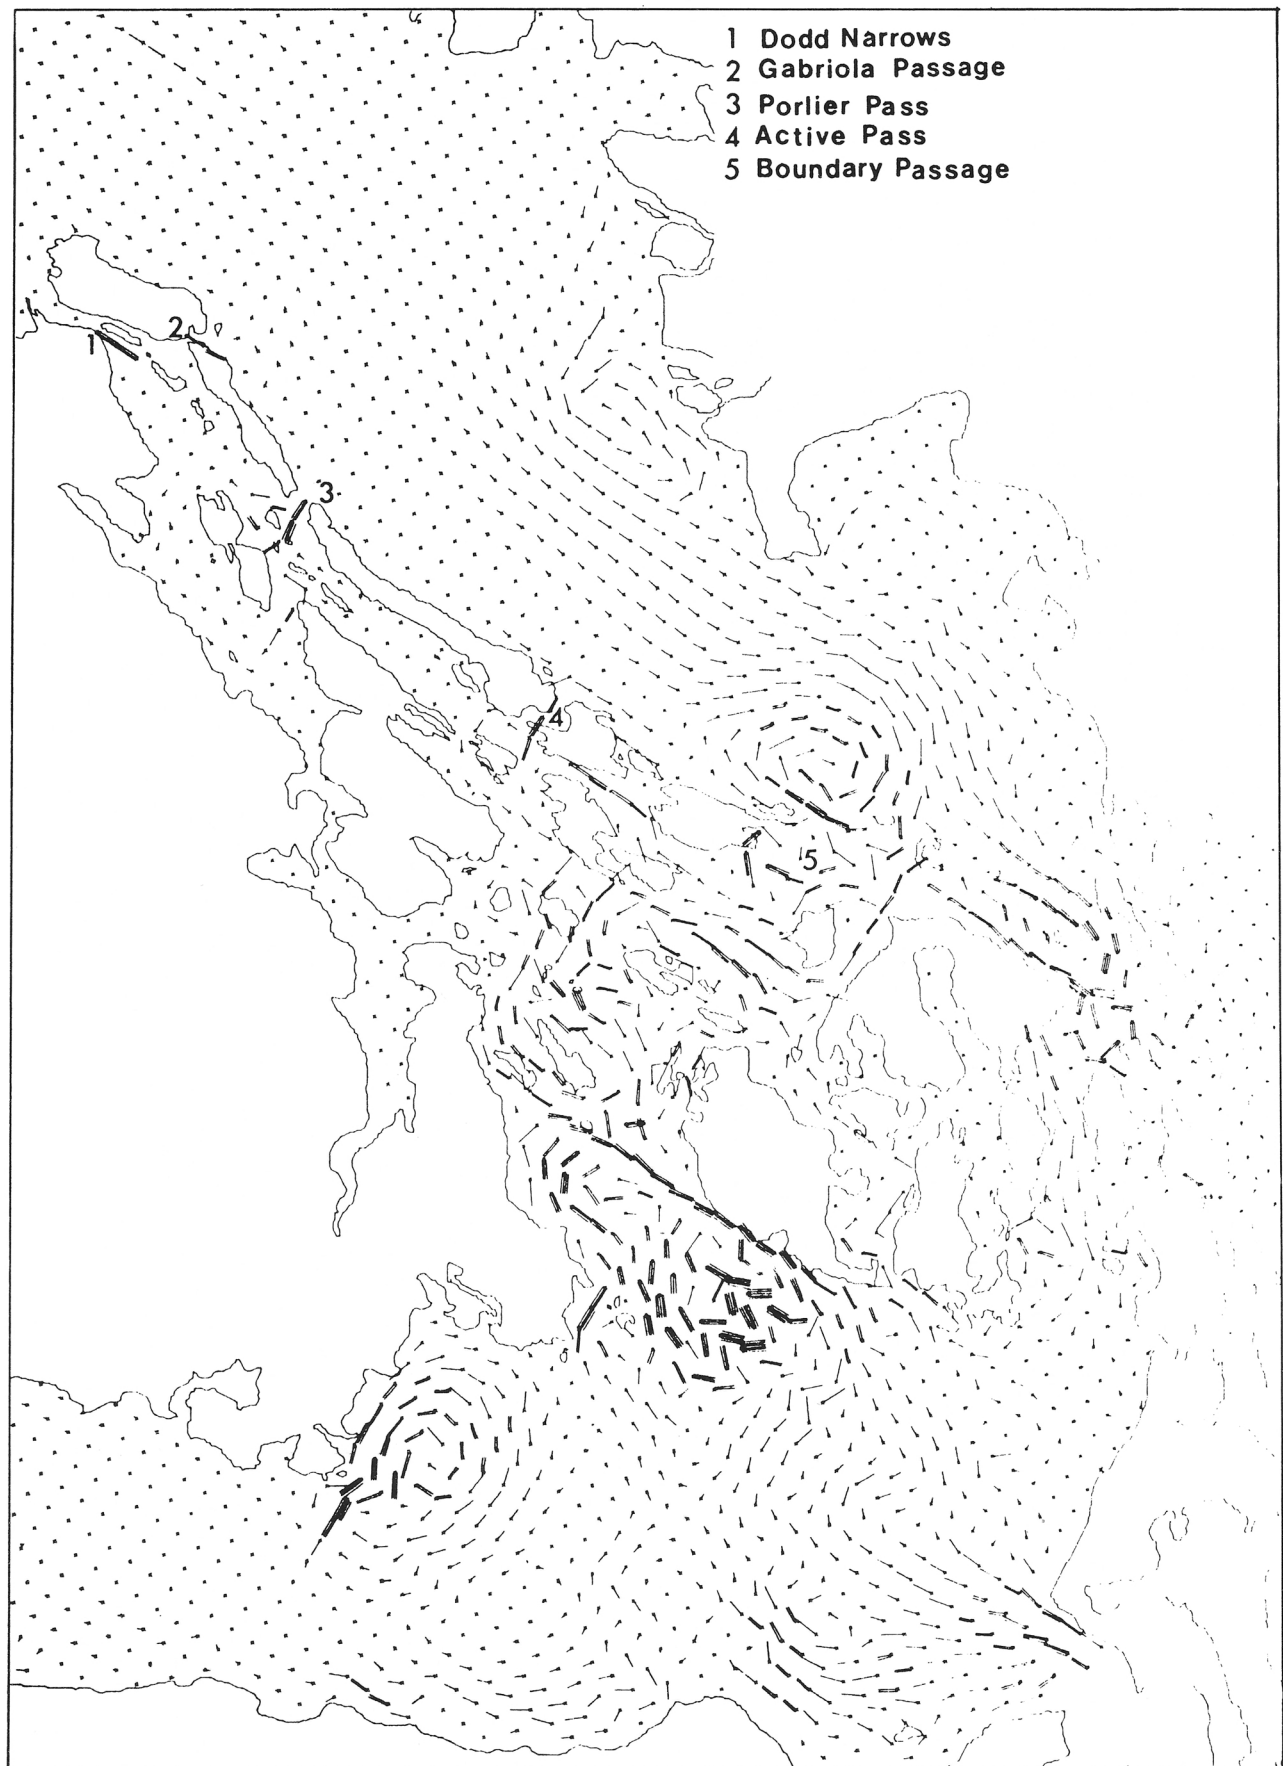

Figure 4. Flood Current Near South Vancouver Island
In these narrow constrictions between the Gulf Islands, the passage of the tide from Juan de Fuca Strait into the Strait of Georgia is choked. A pressure head of up to 750 millimetres can build up along these passes. Our previous current predictions are based on short time-series using drifters and it was felt they could be improved. Michael Woodward of the Tides and Currents Section placed Applied Microsystems underwater pressure recorders at the ends of Active Pass, Porlier Pass, Gabriola Passage, and Dodd Narrows (Figure 4.). They recorded for a year to give a long time series of the pressure heads. At each pass the current was measured for a two week period using a small Neyrpic impellor mounted on a frame on the side of a launch (5).
similar in magnitude at 50m depth, but much less at 200m depth. Ship traffic is concerned more with eddies generated in and near Boundary Passage to the south, and around the various islands and channels in the Strait. Dr. Patrick Crean of the Institute of Ocean Sciences has generated a numerical model of tidal streams in Juan de Fuca Strait and the Strait of Georgia. A chart of these streams during flood (Figure 4) illustrates the large confused flow in Boundary Passage and the large eddies to be found off the Gulf Islands. We have confirmed these eddies with drift observations and reports from mariners. This chart is one of 12 which we have produced from data generated by Dr. Crean's model. They will be bound together in an atlas and sold to mariners.